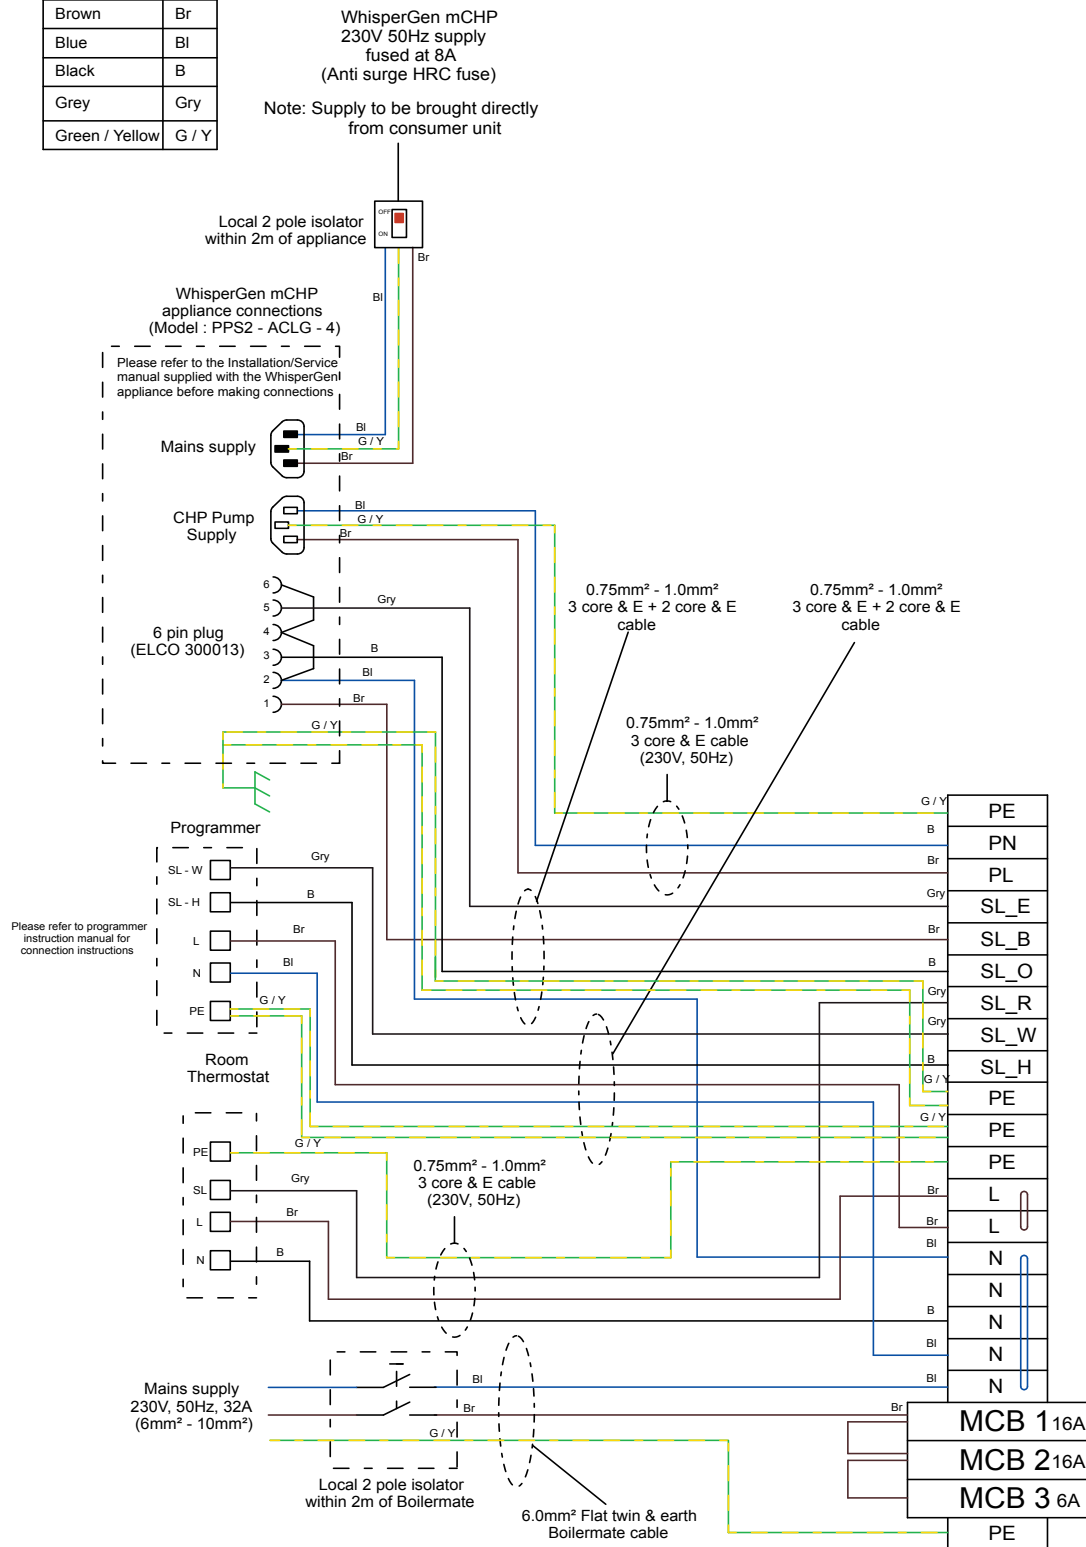

Figure 5.6 Contols and mCHP wiring diagram for 'N' and 'R' models fitted with remote 2 channel programmer
- (f) The remote 2-channel programmer and the room thermostat can be wired to the mCHP BoilerMate with 'No clock' option as shown in figure 5.6.